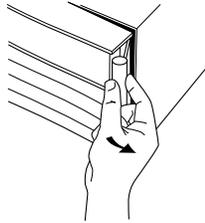

Figure 10. Opening the Router Door
7. Open the front door of the router by pulling its lock—the round post at the upper right—to the right. See figure 10.